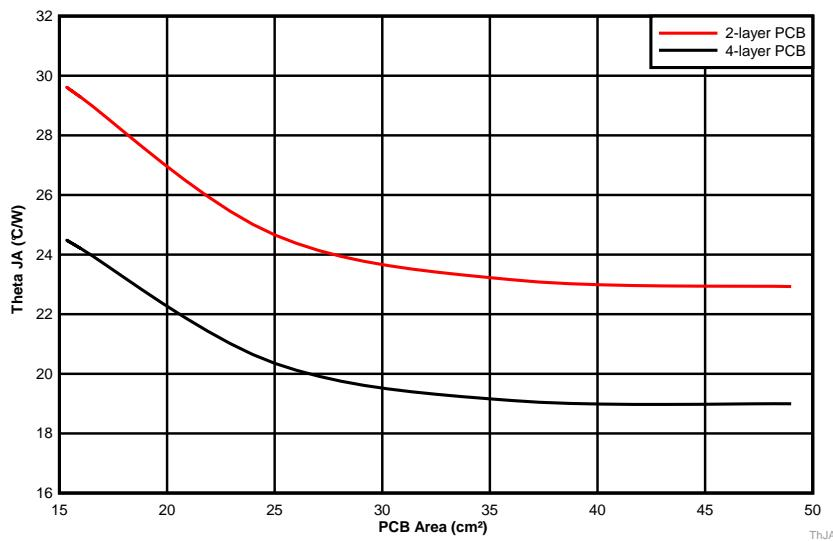

图 37. θ_{JA} vs PCB Area
The amount of PCB copper effects the thermal performance of the device. 图 37 shows the effects of copper area on the junction-to-ambient thermal resistance ($R_{\theta JA}$) of the LMZM33602. The junction-to-ambient thermal resistance is plotted for a 2-layer PCB and a 4-layer PCB with PCB area from 16 cm^2 to 49 cm^2 .
3. Reference 图 37 to determine the minimum required PCB area for the application conditions.